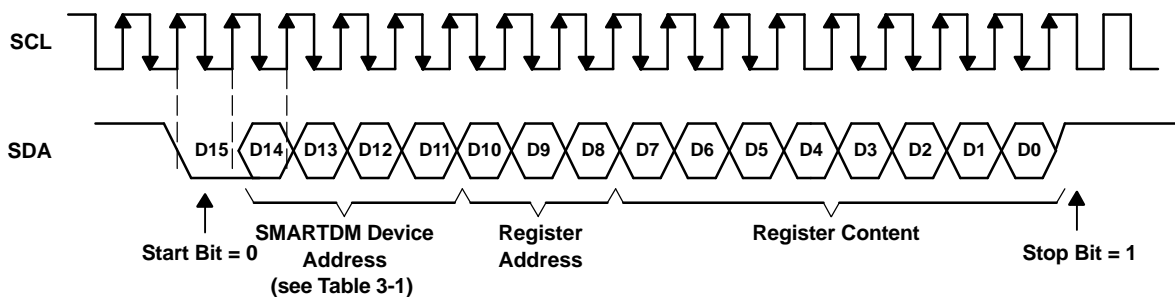

Figure 30. S2C Programming
The S2C is a write-only interface selected by programming bits D1-D0 of control register 2 to 01. The SDA input is normally in a high state, pulled low (START bit) to start the communication, and pulled high (STOP bit) after the transmission of the LSB. Figure 30 shows the timing diagram of S2C. The S2C also supports a broadcast mode in which the same register of all devices in cascade is programmed in a single write. To use S2C's broadcast mode, execute the following steps:
2. Write data to program control register as specified in Figure 30 with bits D14-D11 = XXXX (don't care).